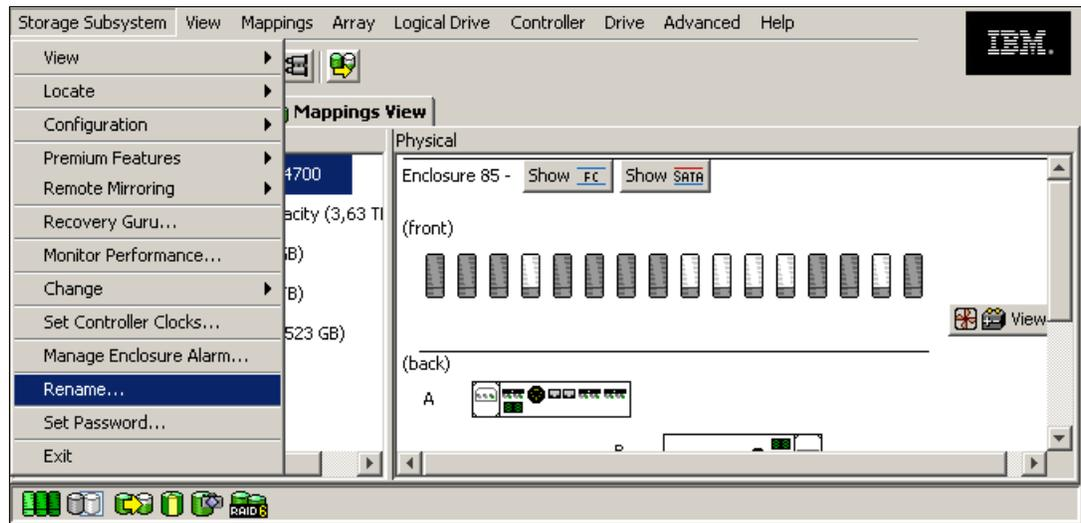

Figure 5-37 Renaming the DS4000 storage server
1. If you installed more than one DS4000 storage server, it is important to give it a literal name that let you precisely identify. To rename the DS4000 storage server, open the Subsystem Management window. Right-click the subsystem and click **Storage Subsystem** → **Rename** (Figure 5-37).